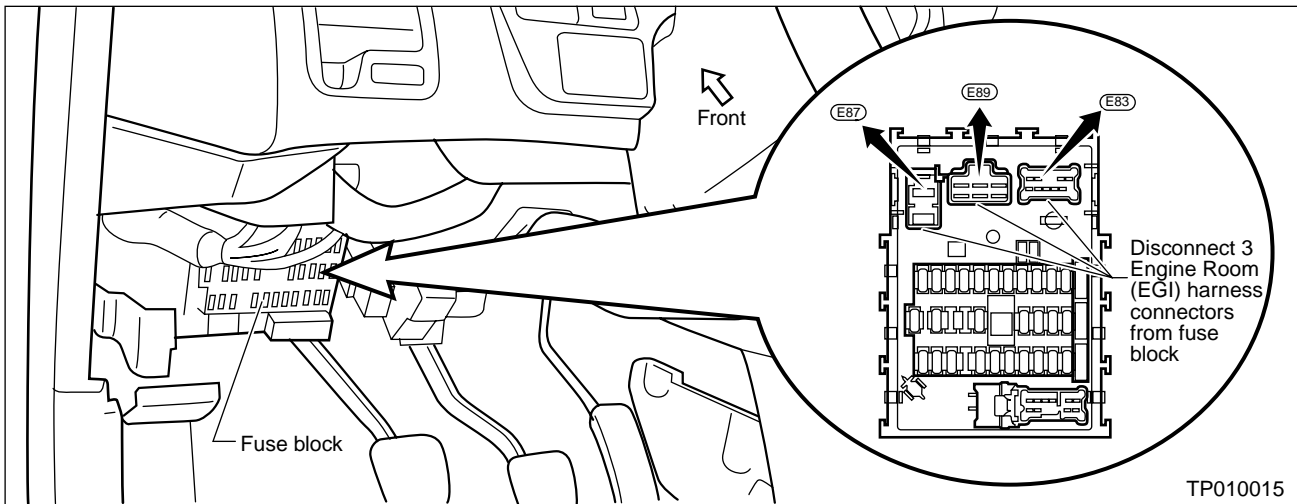

Figure 2
4. Disconnect the 3 Engine Room (EGI) harness connectors from the fuse block (see Figure 2).